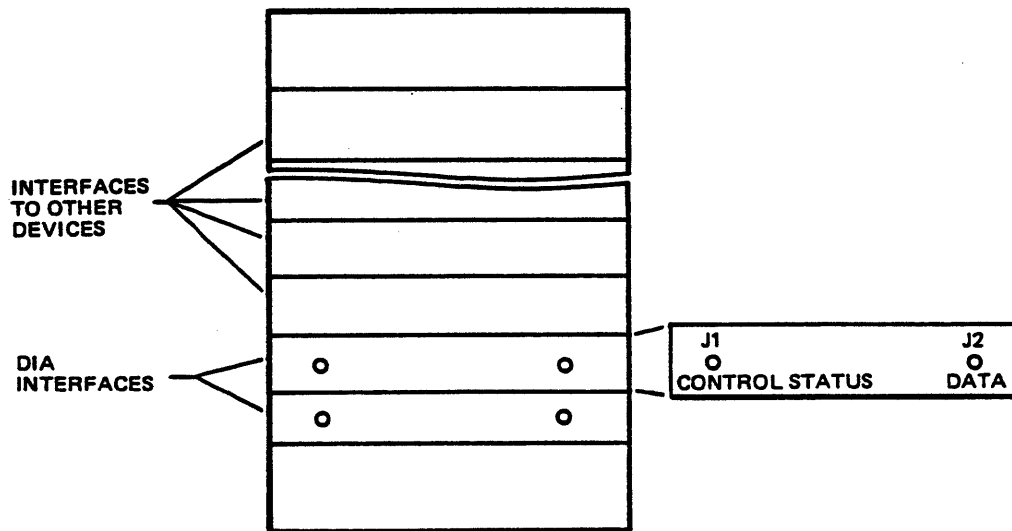

Figure 3-52 L66 IOM Connector Bulkhead
1. Run the two 43D140316 cables from the L66 IOM connector bulkhead (see Figure 3-52) through the cutout at the bottom of the cabinet.